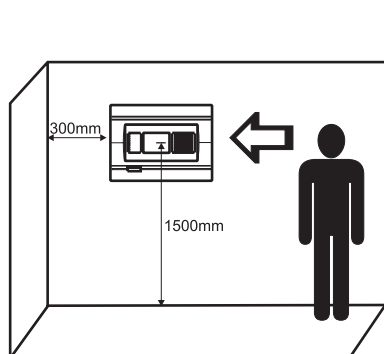

Figure 1
- The panel must be installed in a clean dry place and must not be subjected to impact or vibrations (Figure 1). It must be situated far from heating appliances. The temperature must be within -5°C and + 50°C. The fire panel is not water-proof!